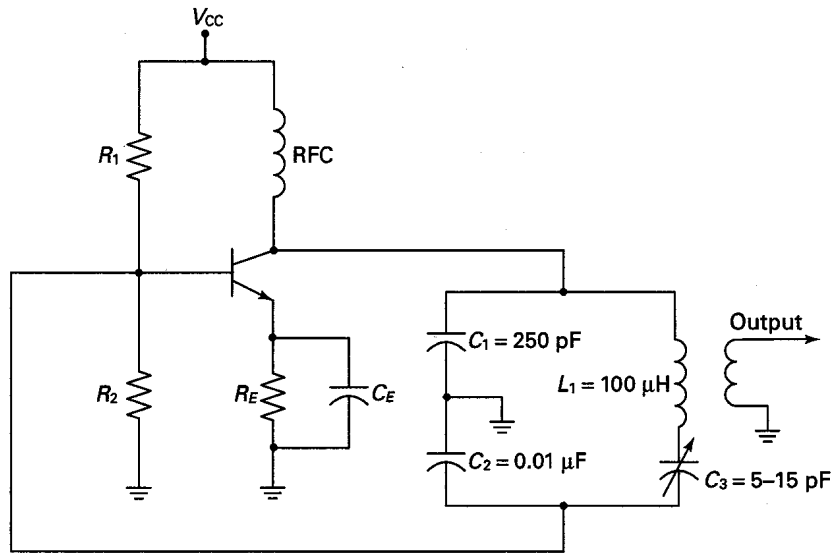

Fig. 2-23
**2.9** In a Colpitts oscillator,  $C_1$  and  $C_2$  are shunted by transistor and stray capacitances. This additional capacitance slightly alters the frequency of oscillation. Figure 2-23 shows how the oscillating frequency can be made nearly independent of the transistor and stray capacitances. An additional capacitor  $C_3$  has been added to the tank circuit. This capacitor is much smaller than either  $C_1$  or  $C_2$ . As a result, the